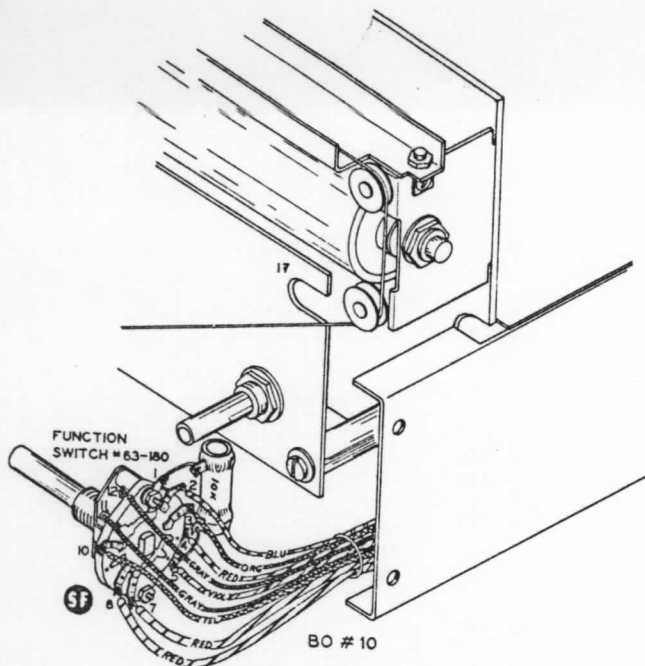

Figure 29
- () Locate the function switch (#63-180), now designated as switch SF, and refer to Figure 29 to become familiar with the numbering sequence, making special note of the position of terminals and the rotor wafers. The switch is shown rotated fully counterclockwise.
- () Connect a 10 K Ω 5 watt resistor between terminal SF1 (S-1) and terminal SF5 (NS). Position as shown.